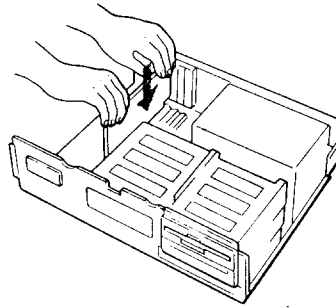

Figure 3-2. Inserting the Card
- 2** Holding the card by the corners, slide it into the support bracket, and press it firmly into the expansion slot (see Figure 3-2).